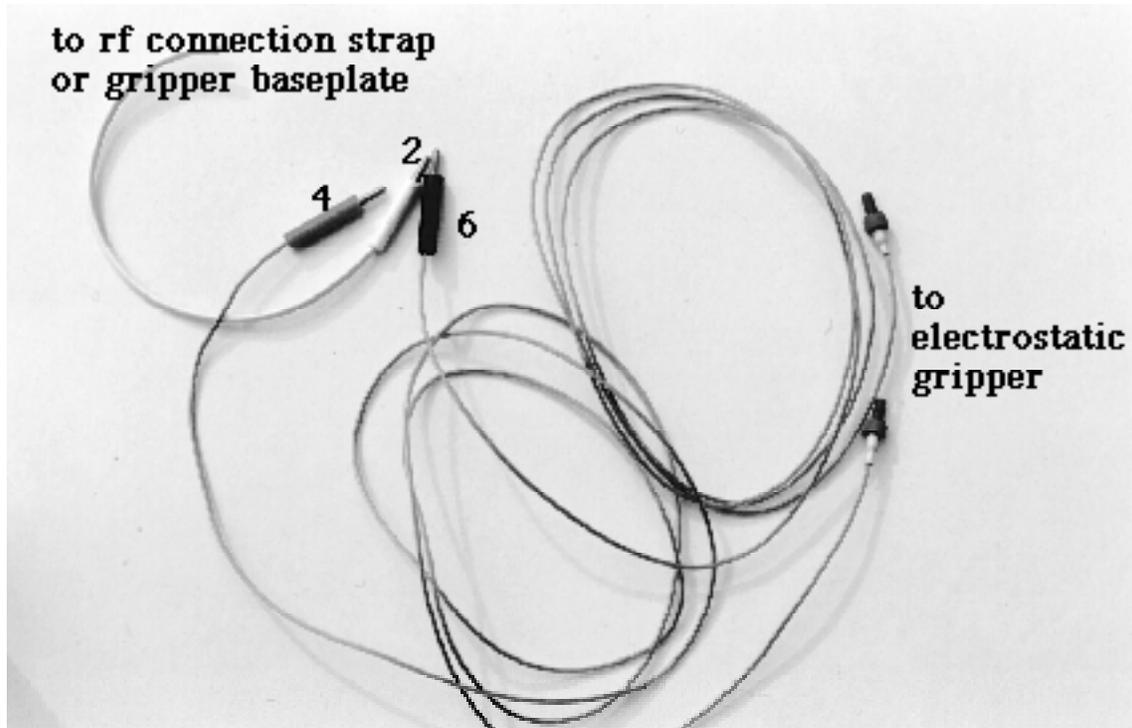

Fig. 7 Rf-side connection cables (typical)
2. RF CHUCK CONNECTION: Connected to the chuck baseplate rf connection. Filtered to yield the dc bias output 3 which is then used to provide a ground reference for the second filter sections, and as the reference for high voltage drives 5,7 and associated cable shields. Connects to "2" in Fig. 7.
4. "A" OUTPUT: Connects to "A" input of chuck using cable "4" in Fig. 7.
6. "B" OUTPUT: Connects to "B" input of chuck using cable "6" in Fig. 7.